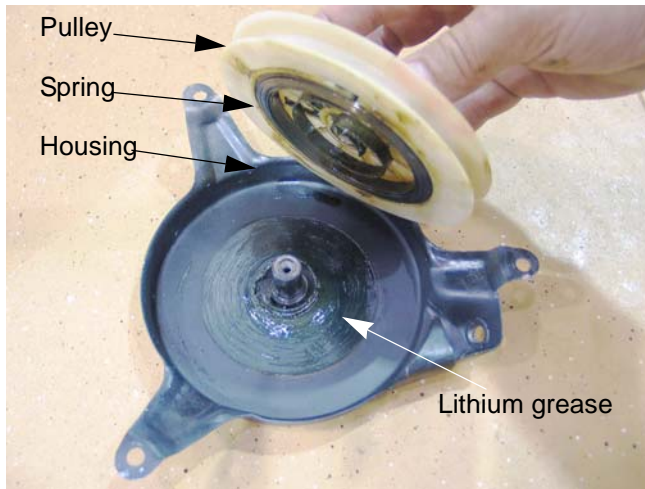

Figure 6.13
- 6.13. Carefully lift the spring and pulley out of the recoil housing. See Figure 6.13.